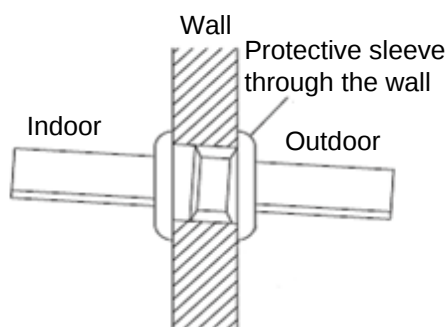
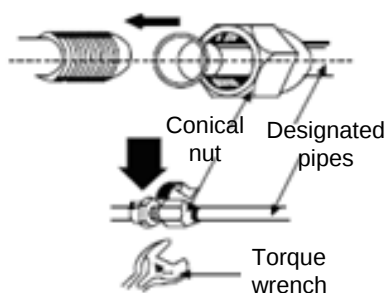

Figure 5-1 Refrigerant connecting pipe through the wall
Figure 5-2 Fastening the connecting pipe
(1) If the water tank and the main unit need to be connected by punching through a wall, a hole of $\Phi 55$ mm must be drilled in the wall and the hole should be inclined toward the exterior wall, as shown in Figure 5-1. Protective sleeves need to be put on both sides of the hole.
(2) Bind up the connecting pipes, power cable, water temperature sensing package, and communication lines (if necessary) of the wired controller with thermal insulation bands, and then lead them through the hole.
(3) Remove the refrigerant pipe joint from the water tank and the sealing nuts from the small and large valves of the outdoor unit, and add refrigerant oil on the joint and valve cones.
(4) Remove the sealing caps of the connecting pipe. Align the center of the bell mouth with the pipe joint and valve cone, and screw up the conical nut with your hand and then with a wrench, as shown in Figure 5-2.